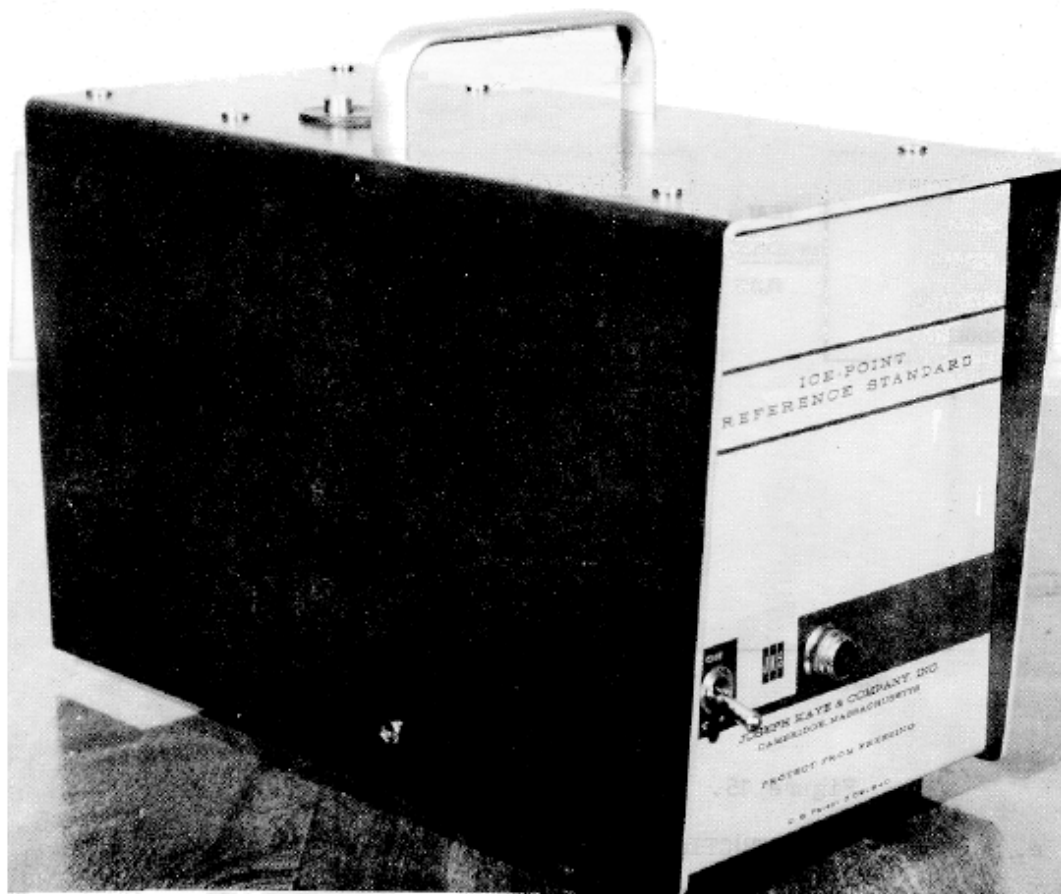

Figure 14. Ice point reference standard.
3. MODEL RCS1-SP-ICE-POINT CALIBRATION STANDARD (See figure 14).
4. CONSTANT TEMPERATURE BATHS (See figure 16). (See figure 14).
5. Secondary Reference Temperature Standards (See figure 14).